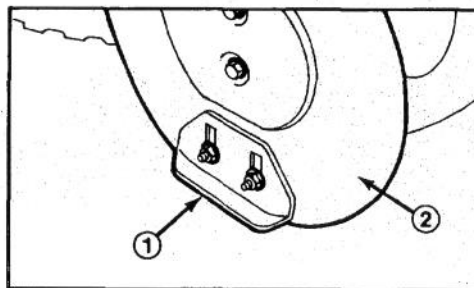

Figure 19
1. Move snowthrower to a level surface. Next, loosen four flange nuts (Fig. 19) securing both skids to auger side plates. Skids must slide up and down.
3. Loosen four flange nuts (Fig. 19) securing both skids to auger side plates. Next, slide skids down as far as possible so auger is as far from level surface as skid adjustment allows; then tighten flange nuts.